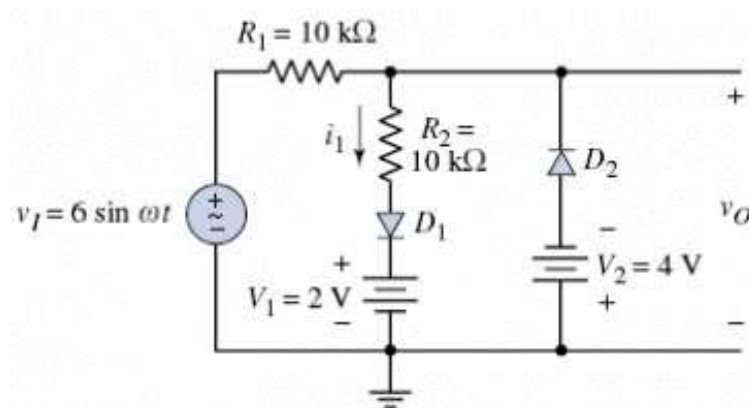

Figure 1: Clipper circuit
(1) Construct the circuit in Figure 1, but without resistor  $R_2$ .
(2) Apply a sinusoidal wave with amplitude of 6 V and frequency 10 kHz as the input voltage  $V_I$ . Show the input  $V_I$  and output  $V_O$  waveforms on oscilloscope and capture both waveforms using MATLAB. Save the waveform data. **In your report, plot input and output experimental results on the same plot. Also overlay the theoretical calculation of input and output on the same plot. That means you will have four waveforms on one plot. Use different markers or colors to differentiate them. Below in each part, do the same for the sine wave input. Square wave or saw-tooth wave is not required for calculation.**
(3) Repeat (2) with a square wave of the same amplitude and frequency. No calculation needed for this step.
(4) Repeat (2) with a saw-tooth wave of the same amplitude and frequency.
Now construct the circuit shown in Figure 1 with  $R_2$ . Repeat steps (2)-(4) for the Part (A) Clipper I. Observe the differences, capture waveforms and save your data.